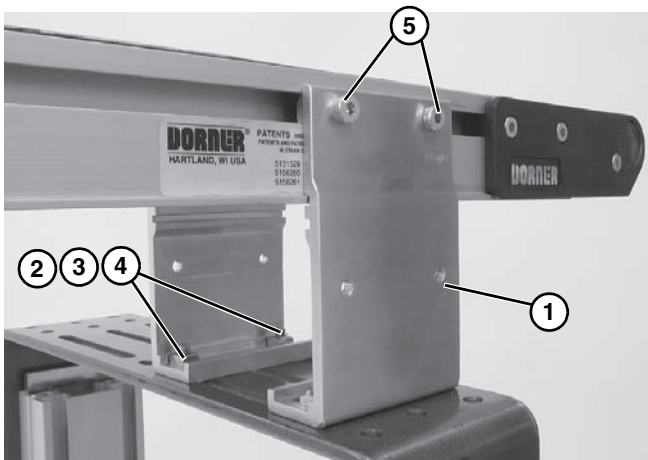

Figure 11
1. Fasten brackets (**Figure 11, item 1**) to support stand with mounting screws (**Figure 11, item 2**), washers (**Figure 11, item 3**) and nuts (**Figure 11, item 4**).
2. Tighten screws (**Figure 11, item 2 and 5**) to 60 in-lb (7 Nm).